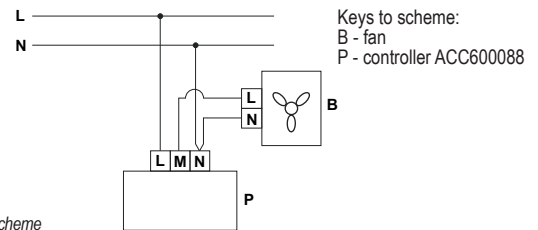

Fig. 3 Controller connection scheme
- dismount controller knob (1);
- unscrew the mount nut (2) of upper cover and remove the upper cover (3);
- unscrew the mount screws (4) connecting controller to mounting box, and to dismount controller (5);
- install connectors to mounting box (6);
- connect wires to terminal block located on controller board according to connection scheme (Fig. 3) and label on terminal block;